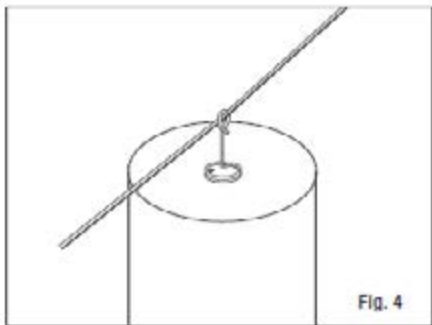
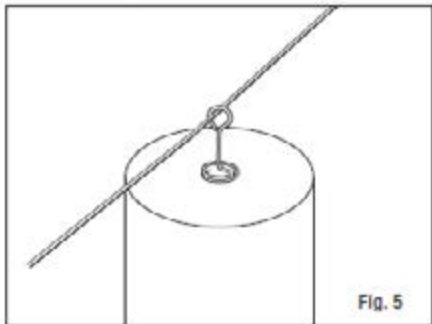

Fig. 4
Fig. 5
- W4. Slip the eye loops over the cable. (Fig. 4) Turn the eye loops approx. 1/4 turn counterclockwise so the eye loops are perpendicular to the absorber, locking the cable in place. (Fig. 5)